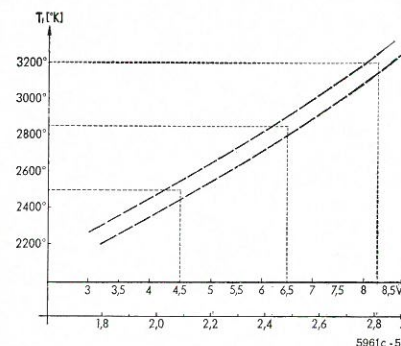

Fig. 14
2) **6 v 15 W lamp attachment.** The colour temperatures of this filament lamp are matched for artificial-light films. The curve shown in Fig. 14 illustrates the dependence of the colour temperature on the current intensity and makes it possible to adapt the lamp to the chosen artificial-light film by regulation of the current. However, care should be taken to exceed the admissible continuous load of 2.5 amp. only for the actual period of photography in order to avoid a considerable shortening of the life of the lamp. Daylight colour films can be used with the aid of the conversion filter included with the lamp; the current load must be 2.5 amp. Any excess of light must be suppressed by means of neutral density screens, never by operation of the aperture stop.